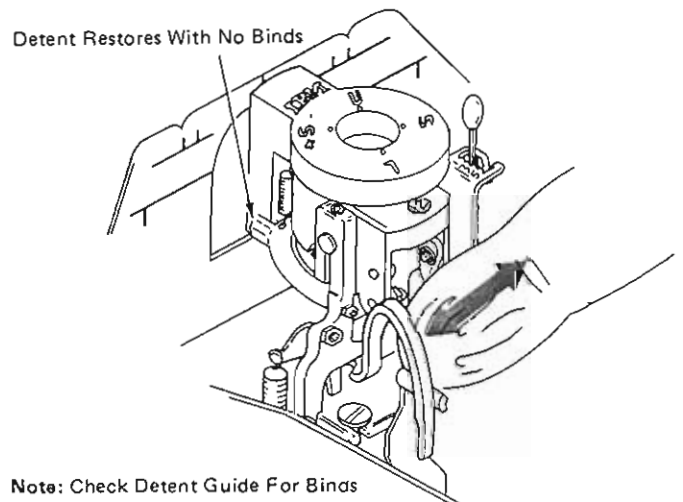

Figure 30 - Detent Restores Against Blade
2. Detent should restore with no binds against the blade of the tool (Figure 30). Do not move the tool when checking this condition.